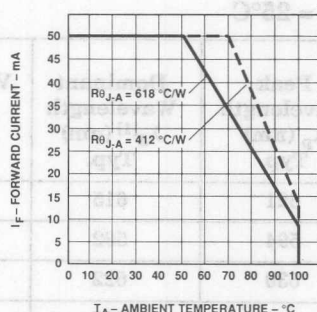

Figure 4. Maximum Forward Current vs. Ambient Temperature. Derating Based on  $T_J$  Max = 110°C.
- Derate linearly as shown in Figure 4.